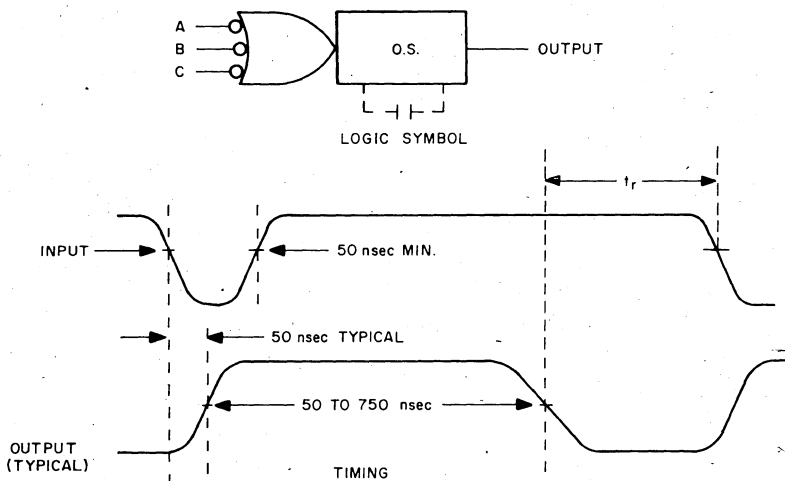

Figure 15. One-Shot Delay Timing and Logic Symbol
**One-Shot Delay:** Calibrated time delays of adjustable duration are generated by the M302 Delay Multivibrator. When triggered by a level change from a logical one to a logical zero, this module produces a positive output pulse that is adjustable in duration from 50 to 750 nsec with no added capacitance. Delays up to 7.5 milliseconds are possible without external capacitance. (See M302 specification.) Basic timing and the logic symbol are shown in Figure 15. The 100 picofarad internal capacitance produces a recovery time of 30 nsec. Recovery time with additional capacitance can be calculated using the formula;